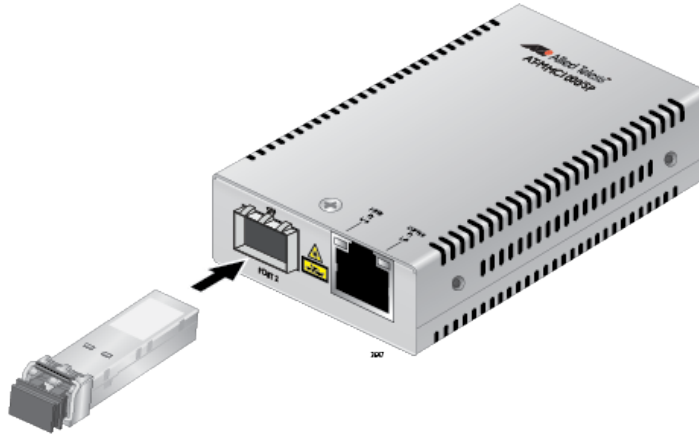

Figure 11. Inserting the SFP
3. Slide the transceiver into the SFP slot until it clicks into place. See Figure 11 on page 36.